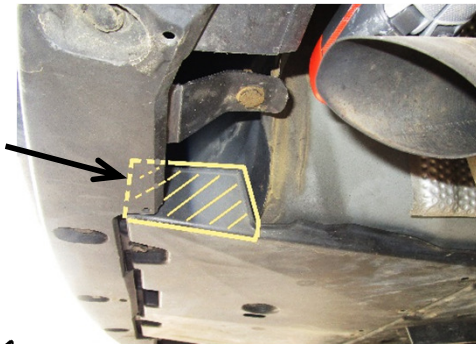

Figure 2
- Lower muffler** – Using an exhaust hanger removal tool, lower muffler by removing (1) rearmost rubber hanger, and (1) forward rubber hanger. A spray a lubricant or soapy water on rubber hangers makes them slide off metal pins more easily. **NOTE: Be sure exhaust is supported before removing rubber hangers.**
- Remove exhaust hanger bracket** – Using a 19mm socket, remove (2) bolts from exhaust hanger bracket on passenger's side. Save exhaust bracket and bolts to be reused for hitch installation.
- Remove underbody panel** – using a flat head screw driver and a 10mm socket, remove (6) plastic push-pin rivets, (1) hex nut, and unscrew (4) threaded panel fasteners from bottom of panel.
- Remove tie down bracket** - Using a 19mm socket, remove (2) bolts from tie down bracket on driver's side. Bolts to be used for hitch installation. Return tie down bracket to vehicle owner.
- Trim underbody panel** – using a tape measure, marker and utility knife, measure, mark, and trim the underbody panel as shown in **Figures 2 and 3**.